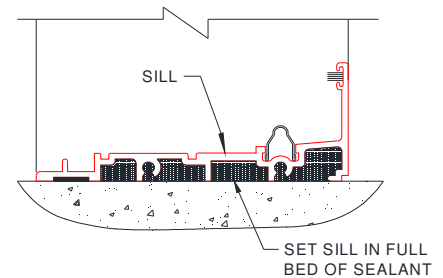

Figure 10:
1. Insert the door into the opening, setting the sill in a full bed of sealant (Figure 10).